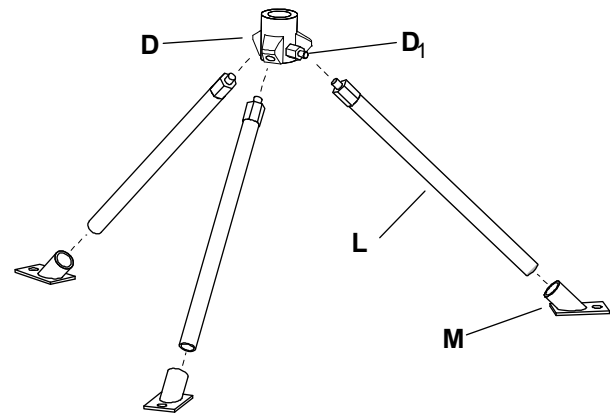

Figure 3
Referring to Figure 3:
3. Pull the *knob* (D₁, Fig. 3) on the tripod seat and
4. Insert the *support assembly* (F) onto the *tripod seat* (D) by first pulling out the *knob* (D₁, Fig. 3) on the *tripod seat* (D). When the knob is released, the support assembly will be secured to the tripod seat.
5. Screw four *double-ended threaded studs* (M) (short-threaded end) into bottom of the *housing base* (C₁) of the hydraulic pump unit.
6. Place the *hydraulic pump unit* (C) onto the lower wing plate such that the studs protrude through the bottom of the wing plate.
The direction of the pipe bender can be adjusted by pulling out the *knob* on the *tripod seat* (D₁, D, Fig. 3) and rotating the pump unit. When the knob is released, the pipe bender can still be adjusted. The machine can only be fixed in one position by rotating the pipe bender until the position rod resets into the indent in the base of the tripod seat.